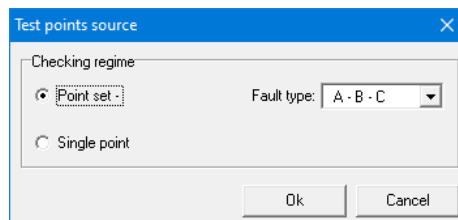

Fig. 4.19. Window of selection of source of test points
- "Copy from" button allows you to copy test points, previously created in other modes. The mode from which the copying is performed selects from the dialog box (Figure 4.19) that appears on your PC screen after you press this button;